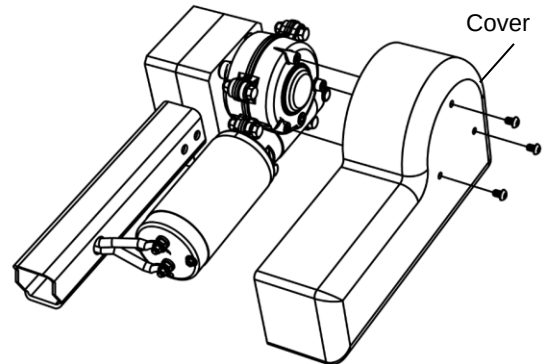

Figure 1
2. **Figure 1.** If applicable, remove the protective cover from the motor.